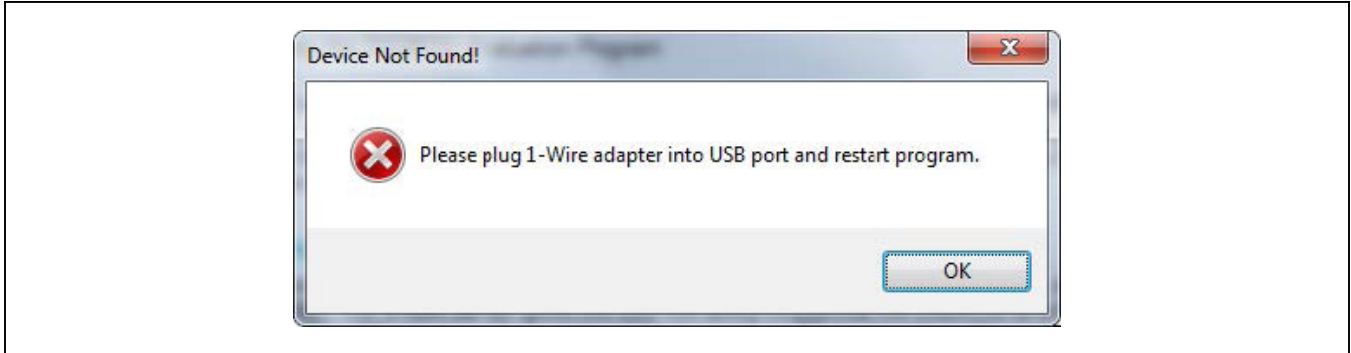

Figure 11. DS9481P-300# Error Message
- 13) If the DS9481P-300# is not detected or connected to the USB port, the software displays an error message (Figure 11). Close the program window, reconnect the DS9481P-300# adapter, and restart the program again.